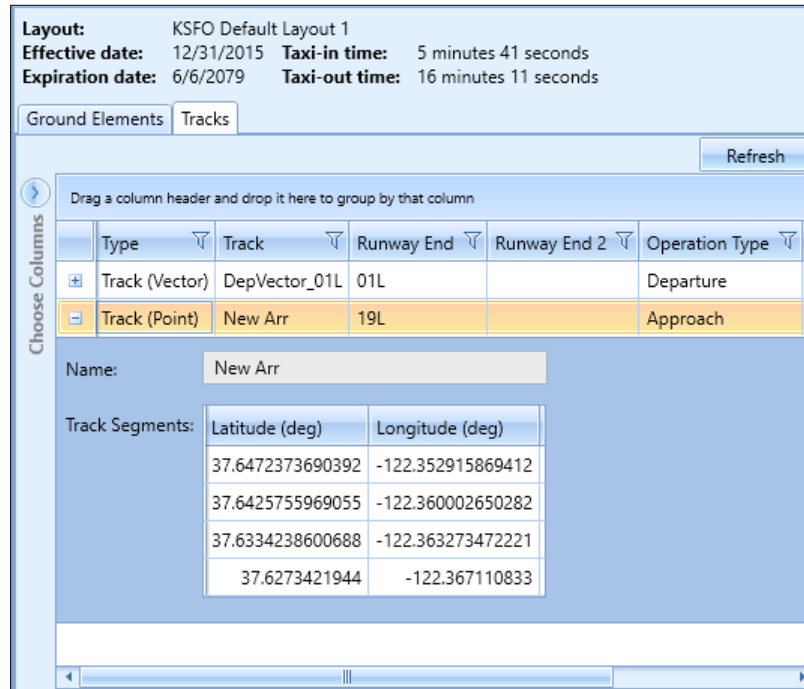

Figure 12. Arrival Point Track
8. The new Arrival point track has been saved to the layout and added to the list of Tracks. Notice that the track is defined by the latitude and longitude of the points (Figure 12).